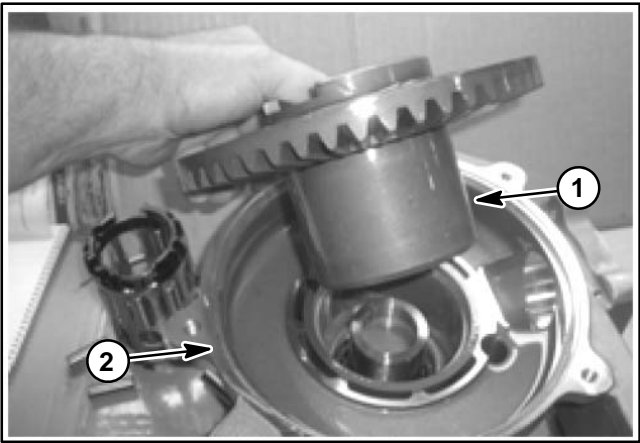

Figure 15
9. Carefully lift the ring gear out of the gear case (Fig. 15). Inspect ring gear teeth for any damage or abnormal wear. Also, inspect inner surface of ring gear for excessive wear caused by the rollers.